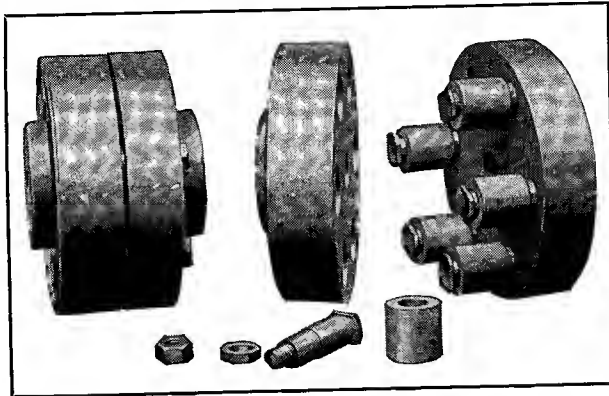

Fig. 4 — Pin and rubber bushing coupling. Assembled coupling is shown on left, exploded view on the right.
4. Pin and Rubber Bushing (Fig. 4)